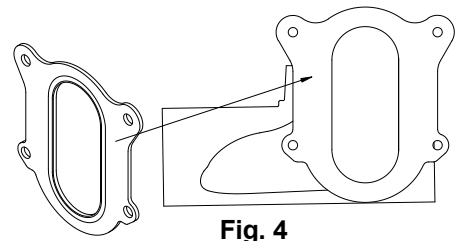

Fig. 4
4. Place faceplate gaskets from trim kits on fittings. Align the gasket holes with the tapped holes in the fitting. See Fig. 4
Factory faceplate/feet assembly is set for a 5 1/2" [140mm] rough-in height, locating feature C (See Fig. 4). Locating feature D on each foot identifies 7 1/2" [191 mm] rough-in height, commonly used for ADA applications.